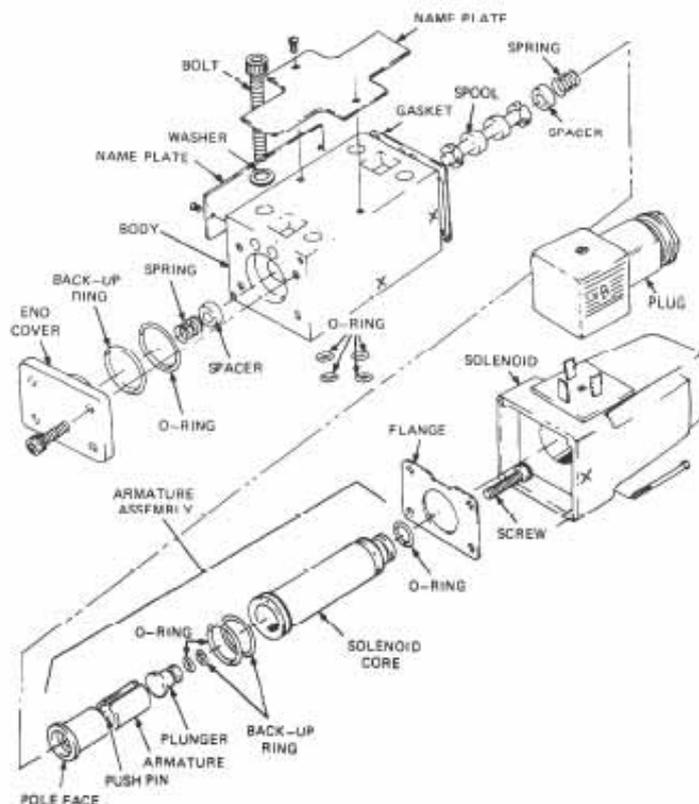

Figure 49 Solenoid Valve – Exploded View
- e. Remove the four socket-head screws from the end cover on the solenoid valve and remove the end cover (Figure 49), then remove the O rings from the end cover and discard them.